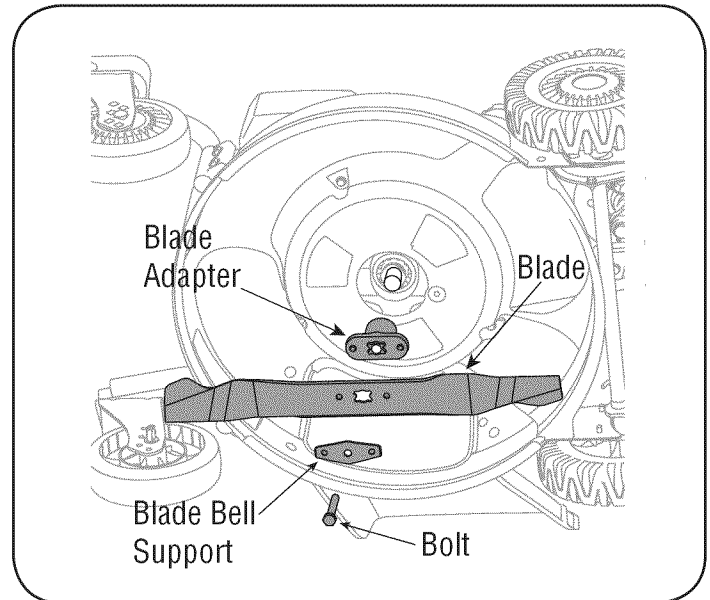

Figure 18
2. Remove the bolt and the blade bell support which hold the blade and the blade adapter to the engine crankshaft. See Figure 18.
3. Remove blade and adapter from the crankshaft. See Figure 18.